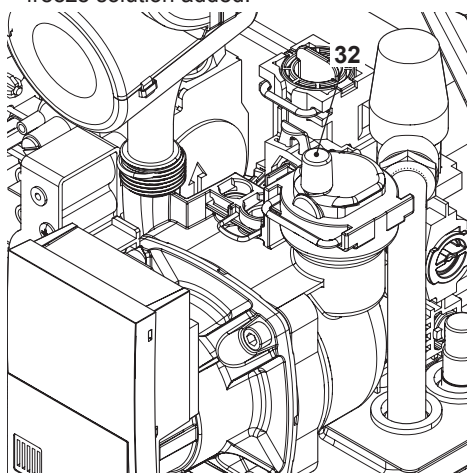

Fig. 10.11
- To make draining easier, unscrew the plug 32 of the automatic relief valve in Fig. 10.11.